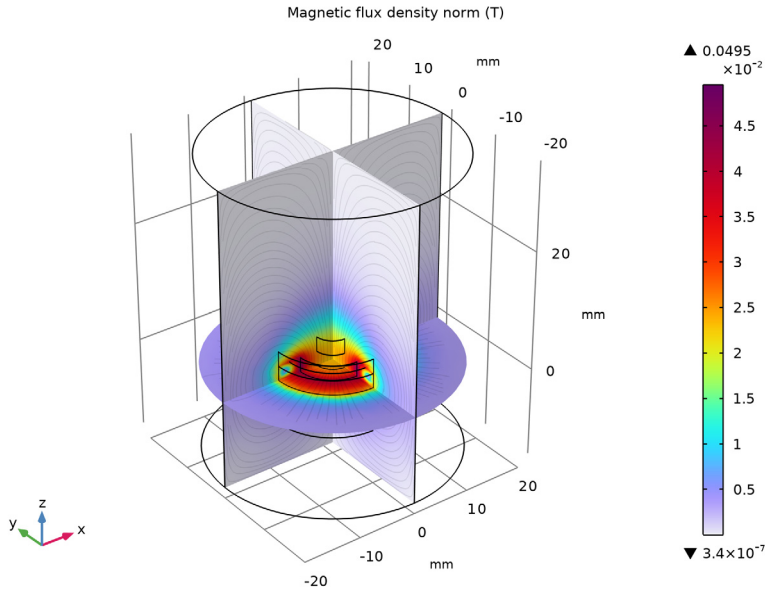

Figure 1: Plot of the magnetic flux density in the magnetic lens.
The magnetic flux density is plotted in Figure 1. The strength of the lens depends upon the coil configuration and current. The lenses within electron microscopes are generally very strong, in some cases focusing the electron beam within the lens itself.
- 5 In the **Magnetic Flux Density (mf)** toolbar, click  **Plot**. Compare the resulting image to Figure 1.